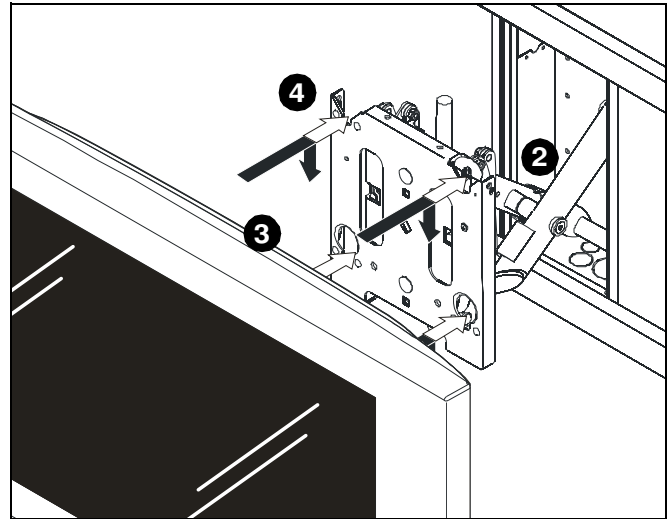
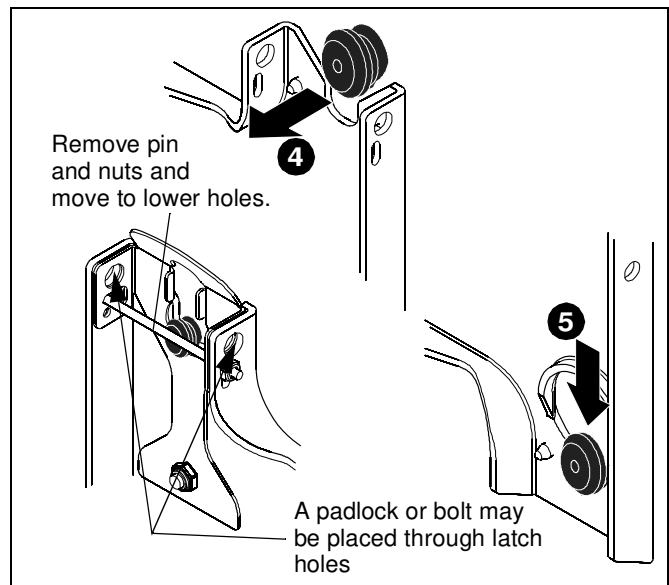

Figure 10
Figure 11
2. Move mount faceplate to extended position by grasping faceplate and pulling outward away from wall. (See Figure 10)
3. While supporting both sides of display, align four mounting buttons on display or interface bracket with four mounting holes in faceplate. (See Figure 10)
4. Lower display into place listening for audible "click" to ensure recessed area of mounting buttons are properly seated in lower area of mounting holes and "click lock" mechanism has engaged. (See Figure 10) and (See Figure 11)
NOTE: Holes are provided in the faceplate for use with a padlock or similar locking device, if desired. In addition, the pin and nut may be removed from the upper holes and moved to the lower holes for use as a more permanent locking device. (See Figure 11)